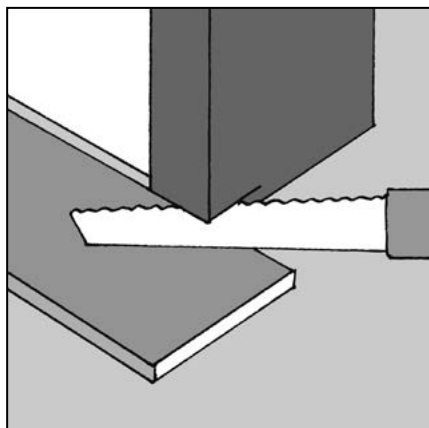

Figure 9 Door frames
**7.1.11.10 Door Frames (fig 9)**